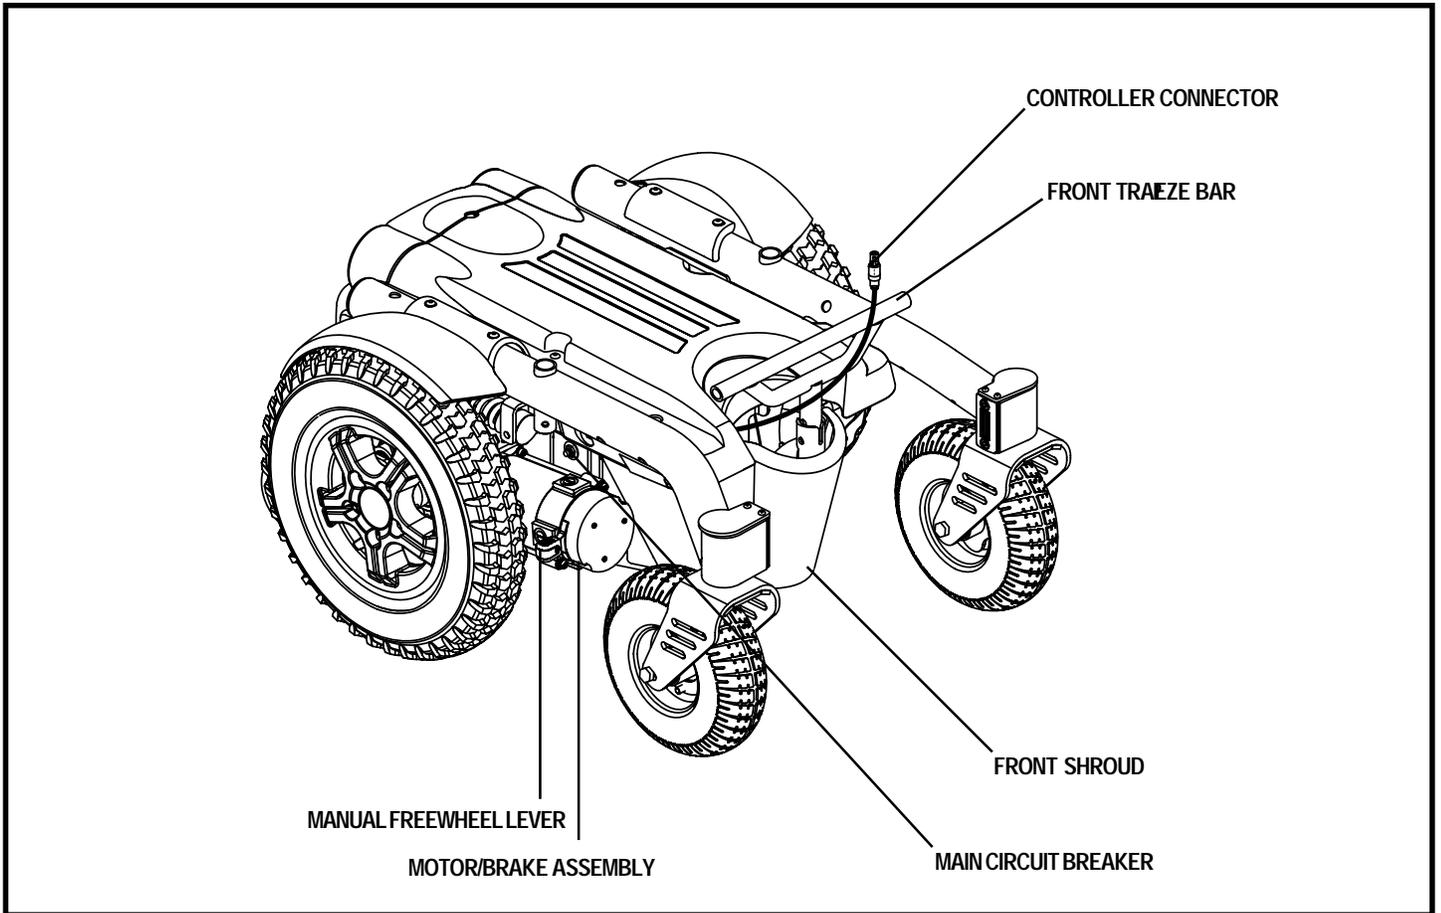

Figure 6. The Quantum R-4000 Series Power Base
The electrical components are located on the front of the power base or on the battery door at the rear of the power base depending on the chosen electrical system. See figures 6 and 7.
**Controller Connector:** This is where the controller connects to the power base. The controller connector is located at the front of the power base. See figure 6.
8. Plug the controller cable into the connector. See figures 6 and 7.